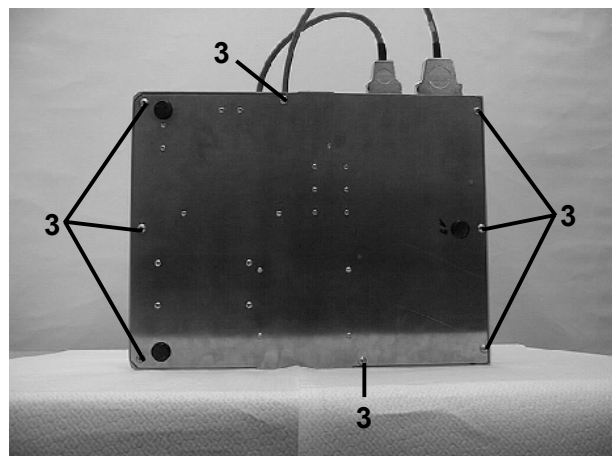

Fig. 7b
- Pull IOLMaster a little over the edge of the table to gain access to screws ((3) Fig. 7b). Remove the screws.
- Attach the cover, re-insert eight screws ((3) Fig. 7b) and tighten them.